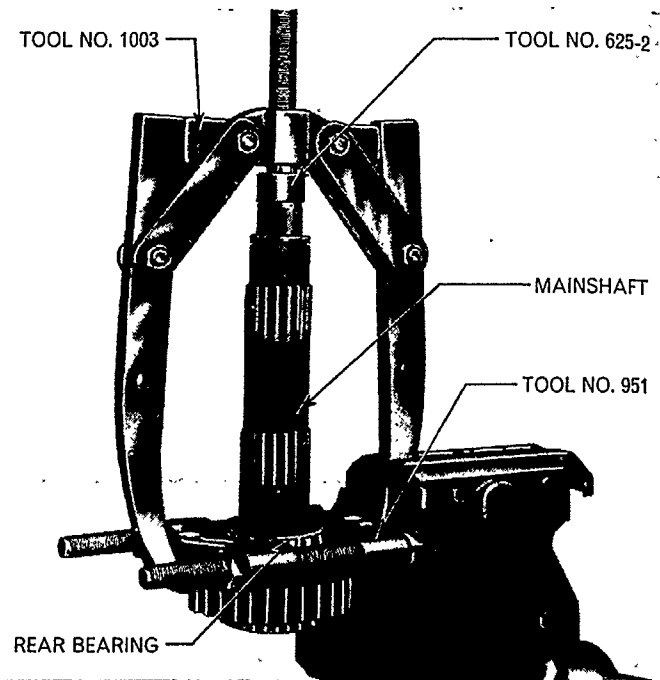

Figure 44
2. If necessary remove the mainshaft rear bearing using Tools Nos. 1003, 951 and 625-2, Figure 44.